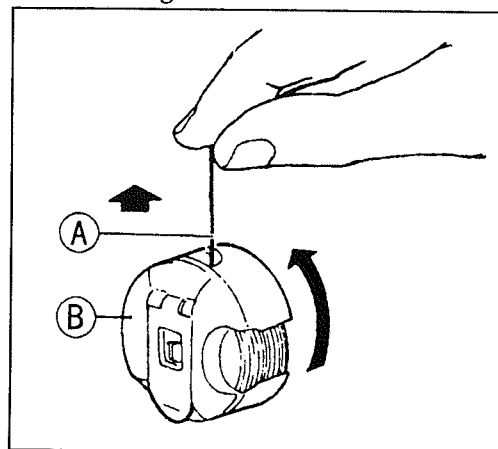

Fig. 13
It is common practice to test the bobbin test the bobbin thread tension as shown in Fig.13 . Hold the end of the thread from delivery eye. If the bobbin case is falling slowly, the proper tension is obtained. The needle thread tension can be adjusted by setting (1) the take-up spring tension. (2) the thread take-up spring stroke and (3) tension spring. All these adjustments will be described in the following.